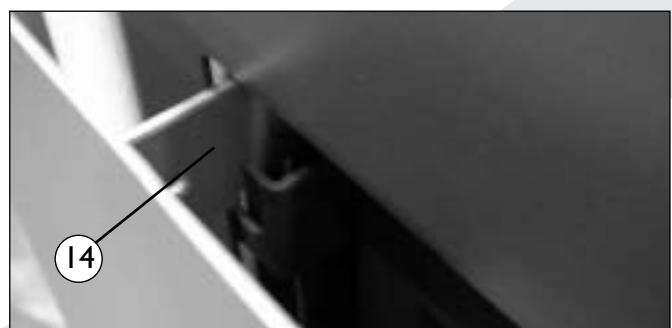

fig. 15
Hang the front onto the interior with the hooks (14) (figs. 15 and 16).